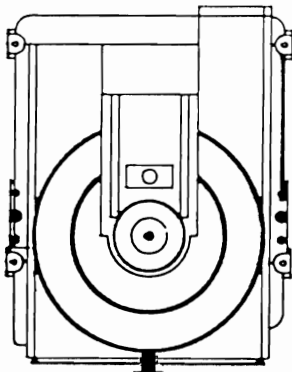

Fig. 5
- 3) Pull out the tray ass'y slowly in the direction of the arrow (fig. 5)